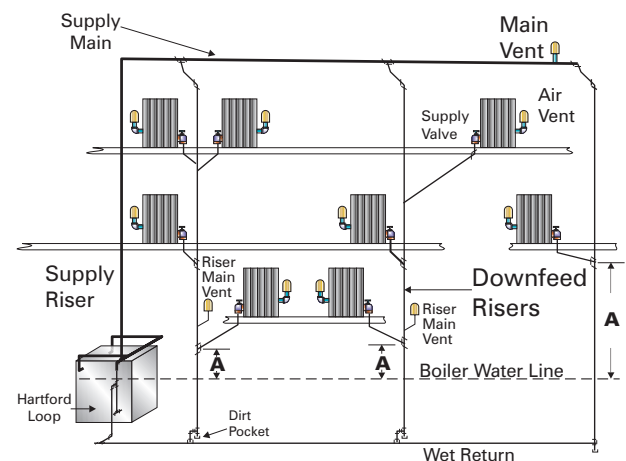

Figure 6: Parallel Flow Downfeed Gravity
- Parallel Flow Downfeed (Figure 6)